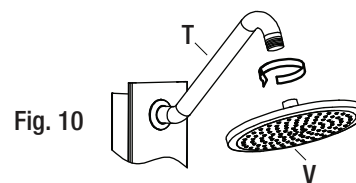

Fig. 10
- Screw the shower head (V) on to the shower arm (T), see Fig. 10.